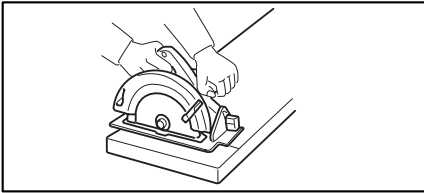

Fig. 5
17. Place the wider portion of the saw base on that part of the workpiece which is solidly supported, not on the section that will fall off when the cut is made. As examples, Fig. 5 illustrates the RIGHT way to cut off the end of a board, and Fig. 6 the WRONG way. If the workpiece is short or small,